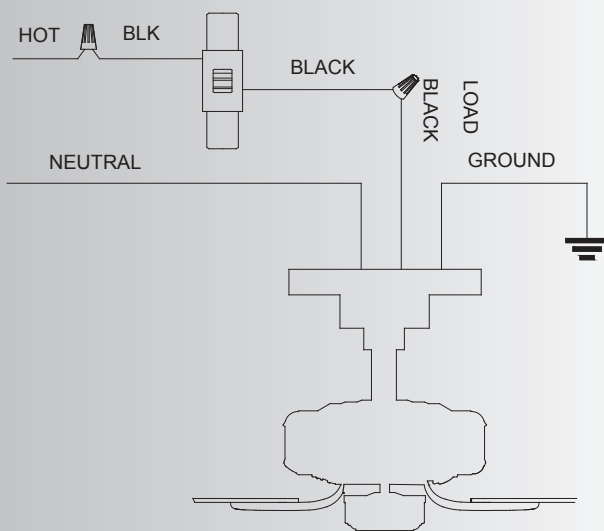

Fig. 24
Step 1. Remove faceplate and screws from existing wall control (if present). Pull control out from the wall box. Determine the "hot" wire and "load" wire and disconnect these wires from control (Fig. 24). Do not attempt to disconnect any wires not already connected to existing control.